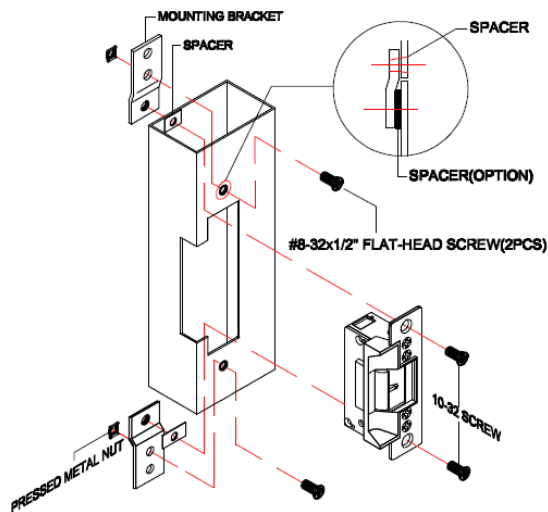

Figure 2
2. Install the mounting brackets to the doorjamb by using the #8-32 x 1/2" flat-head screws and the pressed metal nuts (Figure 2). Do not tighten yet.
- Install the electric strike to the doorjamb by using the #10-32 screws and the lock washers (Figure 2).
- Tighten the #8-32 flat-head screws to hold the mounting brackets to the doorjamb (Figure 2).